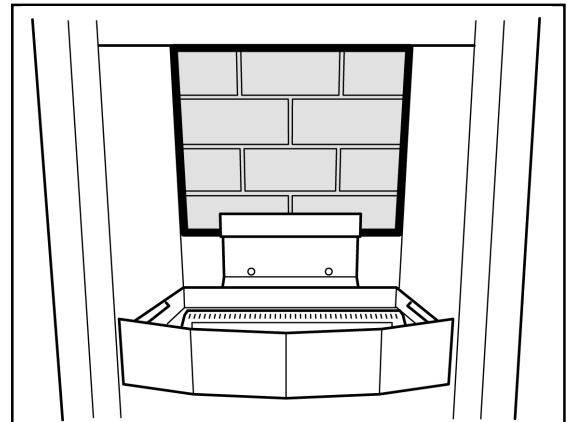

Figure 32 Ceramic Rear Wall Position
1. Fit the ceramic rear wall into the bracket at the back of the firebox .See figure 32.